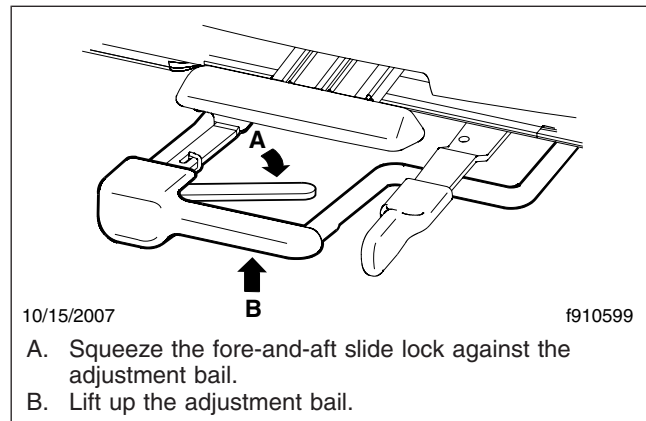

Fig. 7.7, Fore/Aft Slide Adjustment, Sears Atlas Seat
2. **Fore/Aft Seat Slide:** To adjust the fore-and-aft position of the entire seat, squeeze the fore/aft slide lock against the adjustment bail, and lift the bail up. See Fig. 7.7. Slide the seat forward or backward to the desired position. Release the bail and fore/aft slide lock, to its original position, to lock the seat in place.